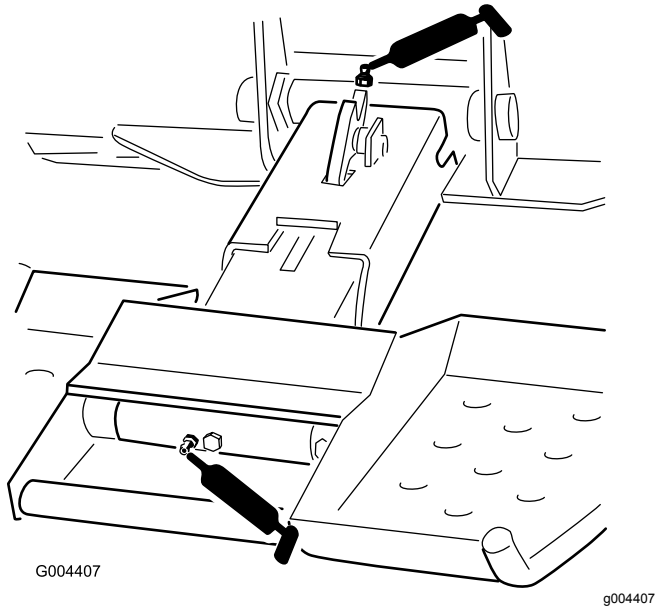

Figure 12
3. Connect a grease gun to each fitting (Figure 12).